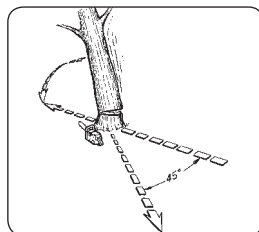

Fig. 12
! **WARNING:** A retreat path (A) should be planned and cleared as necessary before cuts are started. The retreat path should extend back and diagonally to the rear of the expected line of fall, as illustrated in Fig. 12.
! WARNING: As the felling cut gets close to the hinge, the tree should begin to fall. When tree begins to fall, remove saw from cut, stop engine, put chain saw down, and leave area along retreat path (Fig. 12).